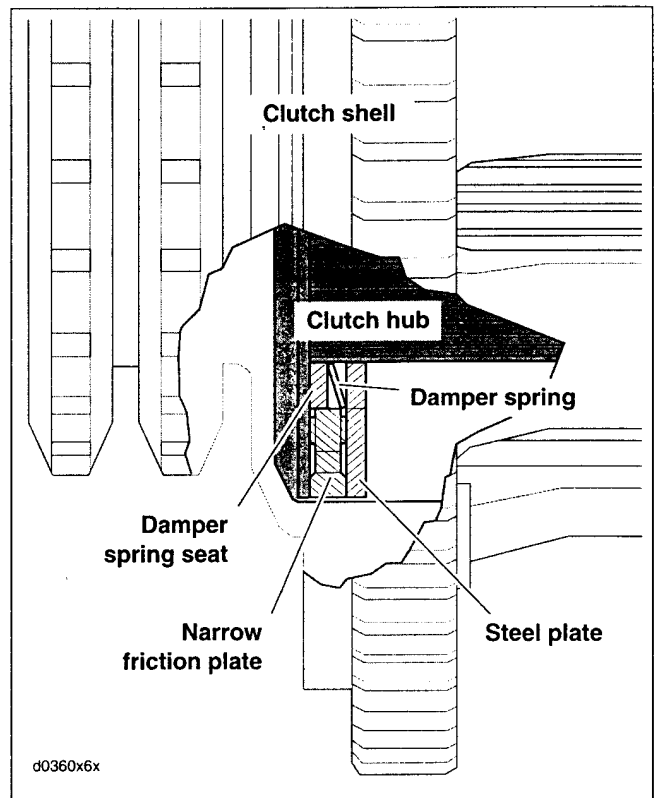

Figure 6-23. Clutch Stackup
7. See Figure 6-23. Install the narrow friction plate on the clutch hub engaging tabs on plate with slots in clutch shell.